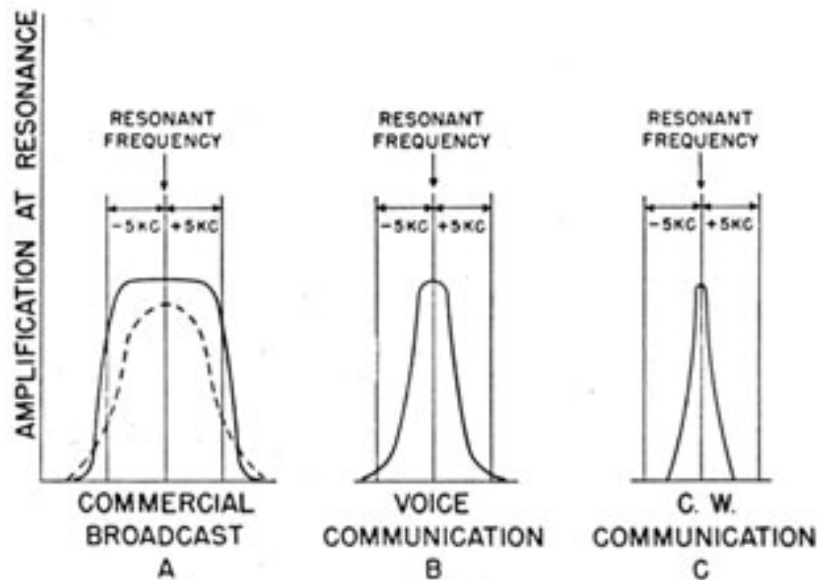

Figure 125.-Band widths of various types of receivers.
C.W. code can be more selective than a voice receiver. A communications voice receiver is designed to tune more sharply than a common broadcast receiver that you'll use to pick up Dinah Shore and Benny Goodman. In general, communication receivers do not make good instruments for receiving music. The reason why is illustrated in figure 125.
Figure 125 shows the best TUNING CURVE for a broadcast receiver. The top is broad and flat and the sides are steep. Most cheap broadcast receivers have tuning curves as shown by the broken lines. This design permits a lot of station interference resulting in low fidelity.